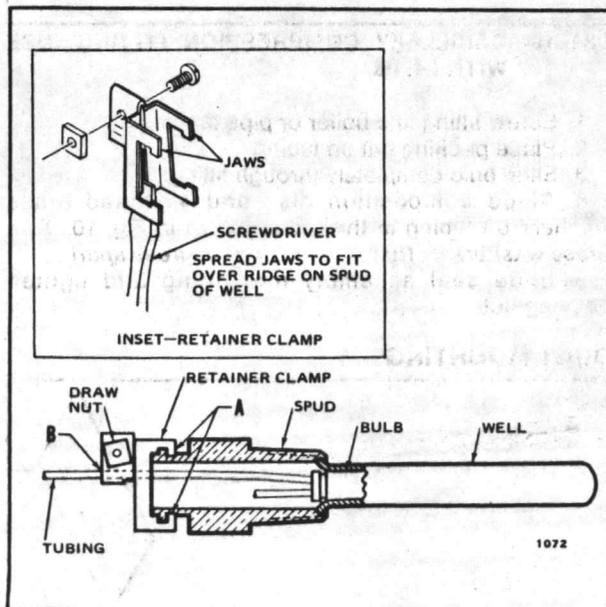
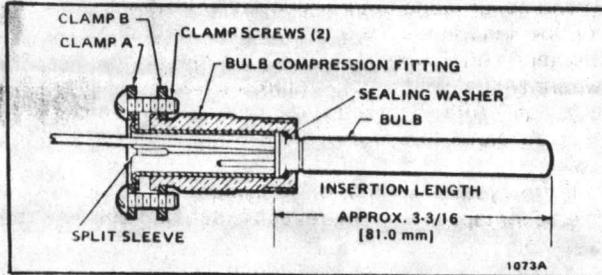
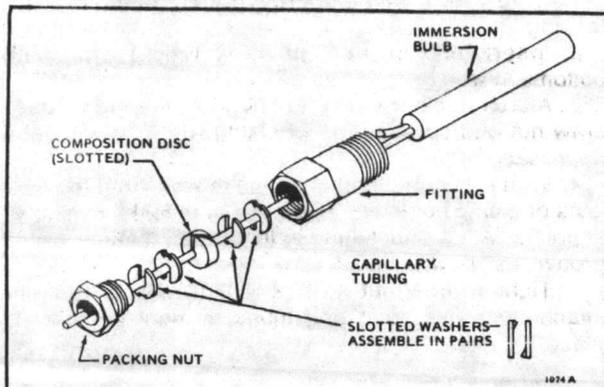

FIG. 8—IMMERSION WELL FITTING.
FIG. 9—BULB COMPRESSION FITTING. USE WITH L4008A,B; L6008A.
FIG. 10—CAPILLARY COMPRESSION FITTING. USE WITH L4008.
The remote temperature-sensing bulb can either be installed in an immersion well (Fig. 8) that extends into the boiler or tank, or it can be directly immersed in the liquid. For installations not using a well, secure the remote bulb with a bulb compression fitting (Fig. 9), or capillary compression fitting (Fig. 10).
rests against bottom of well, then hold it there while tightening the tubing clamp (Fig. 8).
4. Place composition disc and 4 slotted brass washers on tubing in the order shown in Fig. 10. Turn brass washers so that slots are 180 degrees apart.